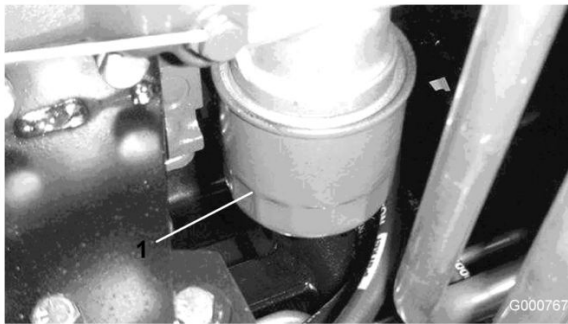

Figure 56
2. Remove oil filter (Figure 56). Apply a light coat of clean oil to the new filter seal before screwing it on. Do not over-tighten.